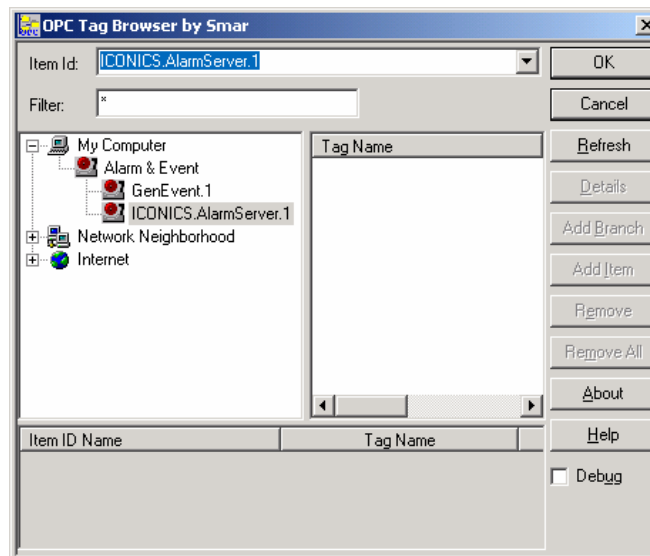

Figure A.44. Selecting an Alarm and Event Server
8. Click the **Browse** button and navigate to the appropriate OPC Alarm and Event server typically found in the "My Computer / Alarm & Event" path (unless you want to connect to a server on another PC on your network). Highlight the desired Alarm and Event server, as shown in **Figure A.44**.